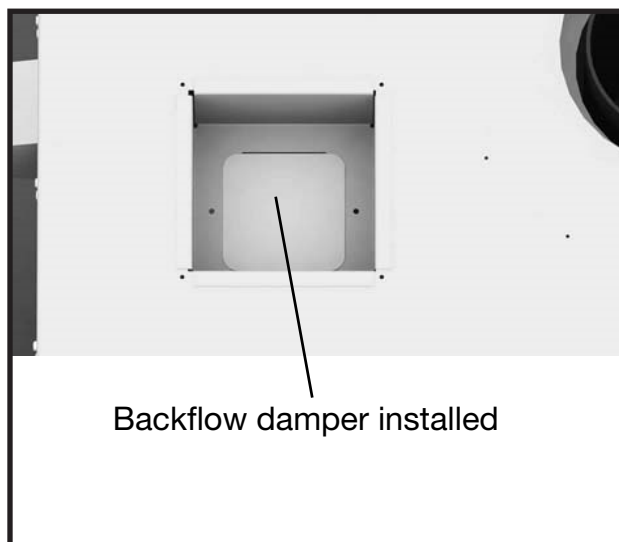

Figure 22: Backflow damper.
3. Place the Backflow Damper into the top of the unit (Figure 22). Ensure that the flap in the assembly is free to move. (Flap should be in the normally closed position with the blower off)